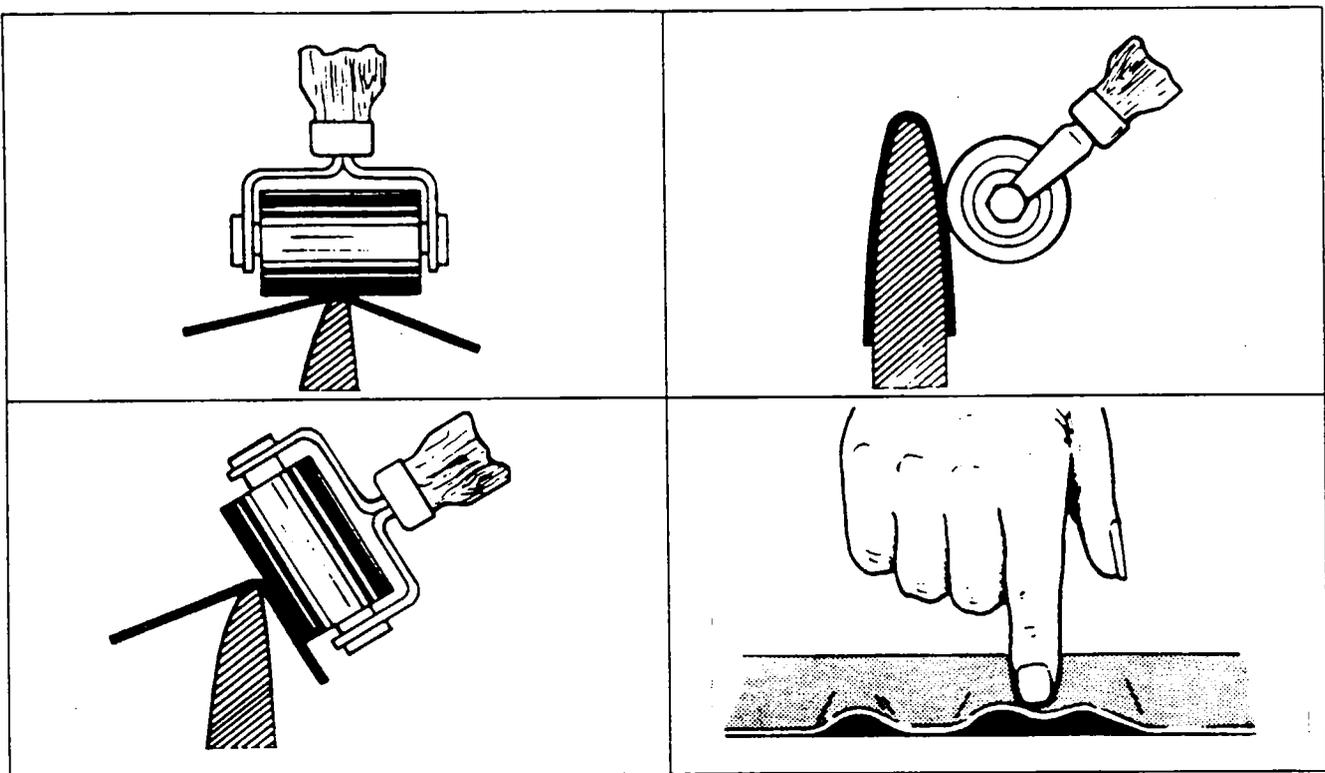

Figure 30-29. Wrinkled Deicers
**WRINKLED DEICERS.** (Refer to Figure 30-29.)